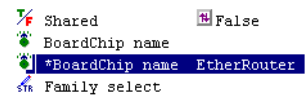

Figure 3-13 Setting up EtherRouter
4. Select the name of the board group. A new entry is added to the right pane with an asterisk * beside it, shown in Figure 3-13.